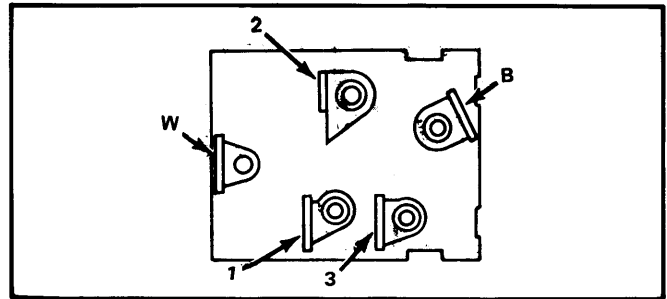

Fig. 2 Jeep Identification of Test Connections ("CJ" Models)
1) Place ignition switch in "ON" position and use a suitable test lamp to check for 12 volts at switch terminal B. See Fig. 2. If test lamp lights but motor does not operate, ensure ground is good by connecting a jumper wire from motor ground strap to a good body ground. If motor still will not operate, disconnect jumper wire. Disconnect wiring from switch.